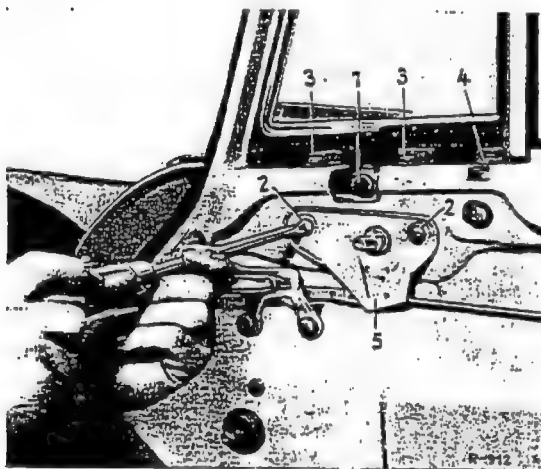

Fig. 72-13/1
4. Unscrew the hexagon screw (1) (Fig. 72-13/1).